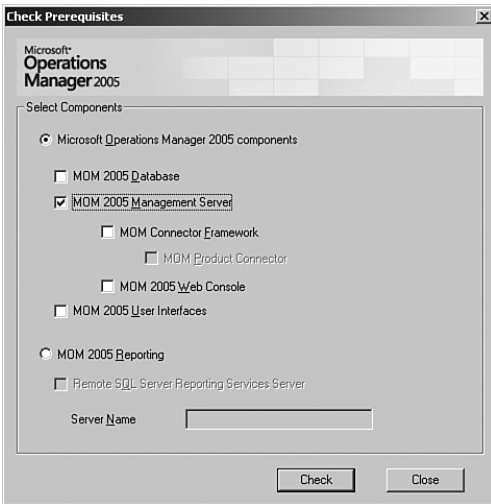

FIGURE 6.13 Check prerequisites for a MOM 2005 management server.
1. Check prerequisites, specifying the MOM 2005 Management Server as the component, as illustrated in Figure 6.13.